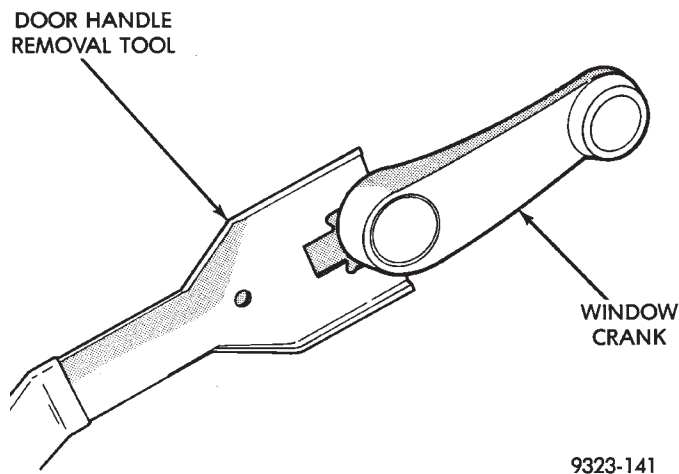

Fig. 9 Window Crank
- (1) Roll door glass down.
- (2) If equipped, remove window crank (Fig. 9).